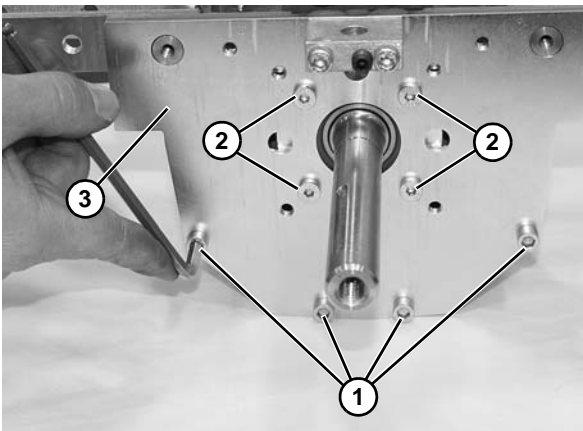

Figure 143
- Remove four socket head screws (**Figure 143, item 1**).
- Remove four low head cap screws (**Figure 143, item 2**) and remove side plate (**Figure 143, item 3**).